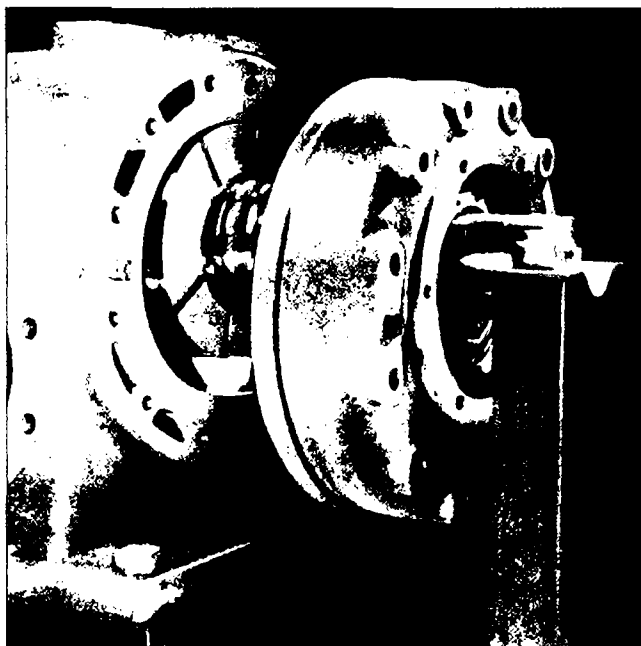

FIG. 12 — Shaft support-booster unit.
- **NOTE:** Booster units require removal of seal and support for the shaft as illustrated on Figure 12.
- Boosters differ from Model 5 through 19 compressors in that the discharge flange points upward in the vertical direction and the rotor is close to the top of the cylinder as illustrated in Figs. 12 and 13.